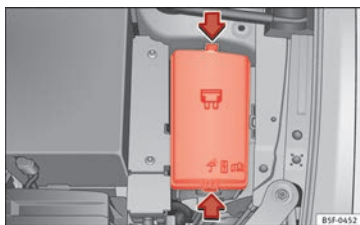

Fig. 203 In the engine compartment: fuse box cover
- Press the locking tabs to release the fuse box cover » **Fig. 203.**